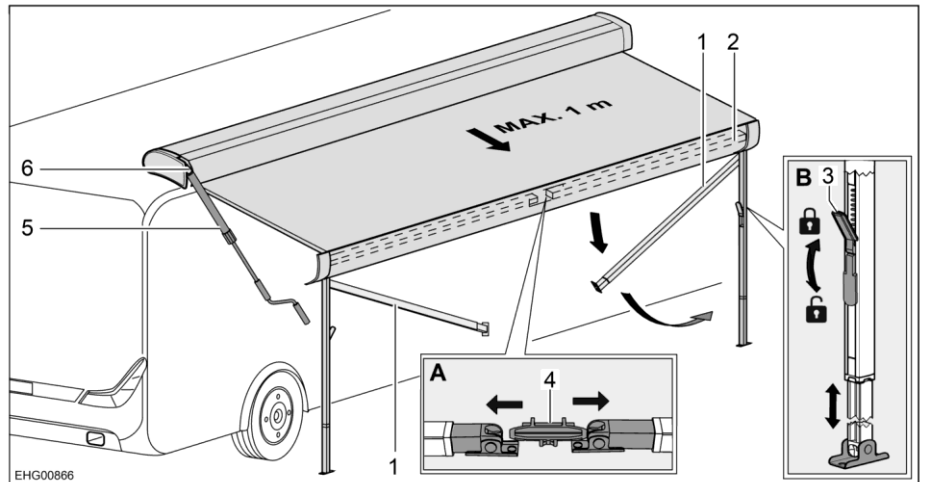

Fig. 49 Position support legs
- Release support legs (Fig. 49,1) from holder (Fig. 49,4) in the front bar (Fig. 49,2). In order to do this, apply slight outward pressure on the support legs (Fig. 49,A).
- Release the locks (Fig. 49,3) of the support legs. In order to do this, fold the catch lever downwards.
- Pull lower part of the support legs out to the desired length (Fig. 49,B).
- Close the locks (Fig. 49,3) of the support legs. In order to do this, fold the catch lever upwards.
- If necessary, clean the support legs (Fig. 49,1).
- Open the locks (Fig. 49,3) on the support legs. In order to do this, fold the catch lever downwards.
- Insert the crank (Fig. 49,5) to the bayonet socket (Fig. 49,6).